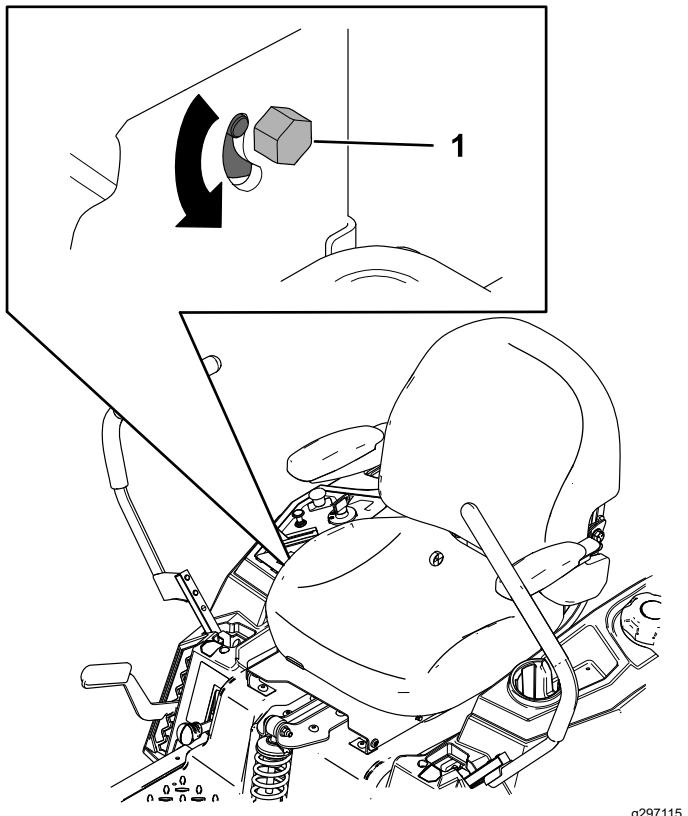

Figure 52
- Locate the tracking-adjustment bolt near the motion-control lever on the particular side that needs adjusting (Figure 52).